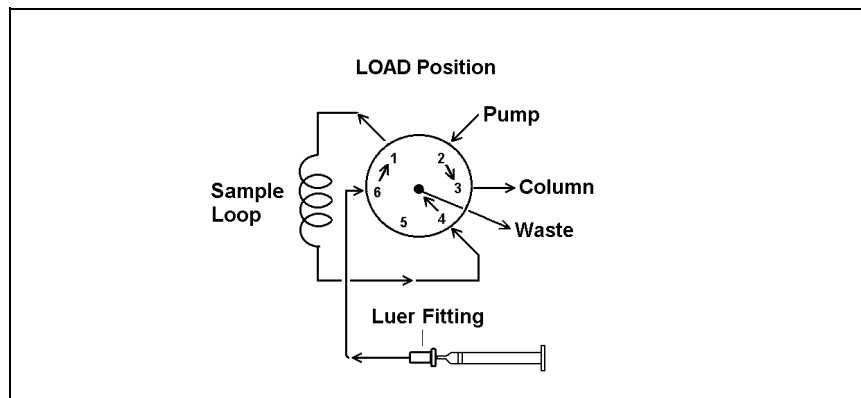

Figure 3-3. Loading Sample Through the Waste Line
5. Push sample through the waste line. Waste will exit the valve through the needle adapter. No sample to be analyzed will come into contact with the metal needle of the needle adapter (see Figure 3-3).
- Connect the sample line from the autosampler to port 6 on the Rheodyne valve and install the needle adapter shipped with the Rheodyne valve into the needle port. This method is similar to loading sample through the waste line as described in the previous section (see Figure 3-3).